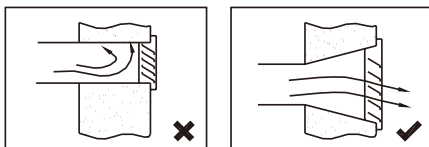

Fig.6 Outdoor vent
- (3) The inwall of the duct should be slick, dustless and unfolding.
- (4) Keep air resistance of decorative vent on outdoor wall and indoor ceiling low. It is better to install rectangular aluminum alloy diffuser or two-layer louver with caliber of above 200×200mm. If the outdoor vent is waterproof louver, its caliber area should be 3-4 times bigger than cross-sectional area of duct connecting with it so that air flow can pass through the louver smoothly. The selection of outdoor vent is shown as fig.6.